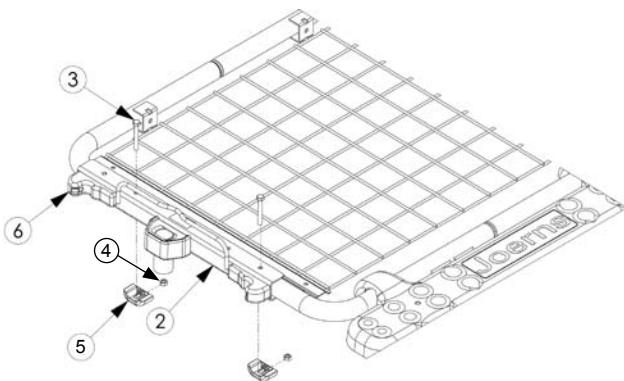

Figure 3
2. Orient the mounting channel (item 2) with the bed as shown in Figure 3 on page 5.
5. Insert 5/16" bolts (item 3) through holes of mounting channel and holes on sleep surface (Figure 3 on page 5) and fasten securely with 5/16" locknuts in retainers (item 4).